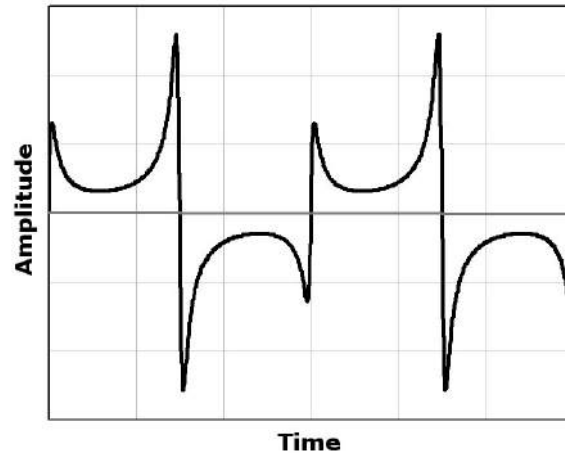

Figure 9.2: Calculated shape of an error signal
- Check the error signals as described in section 7.3. They should look like shown in figure 9.2